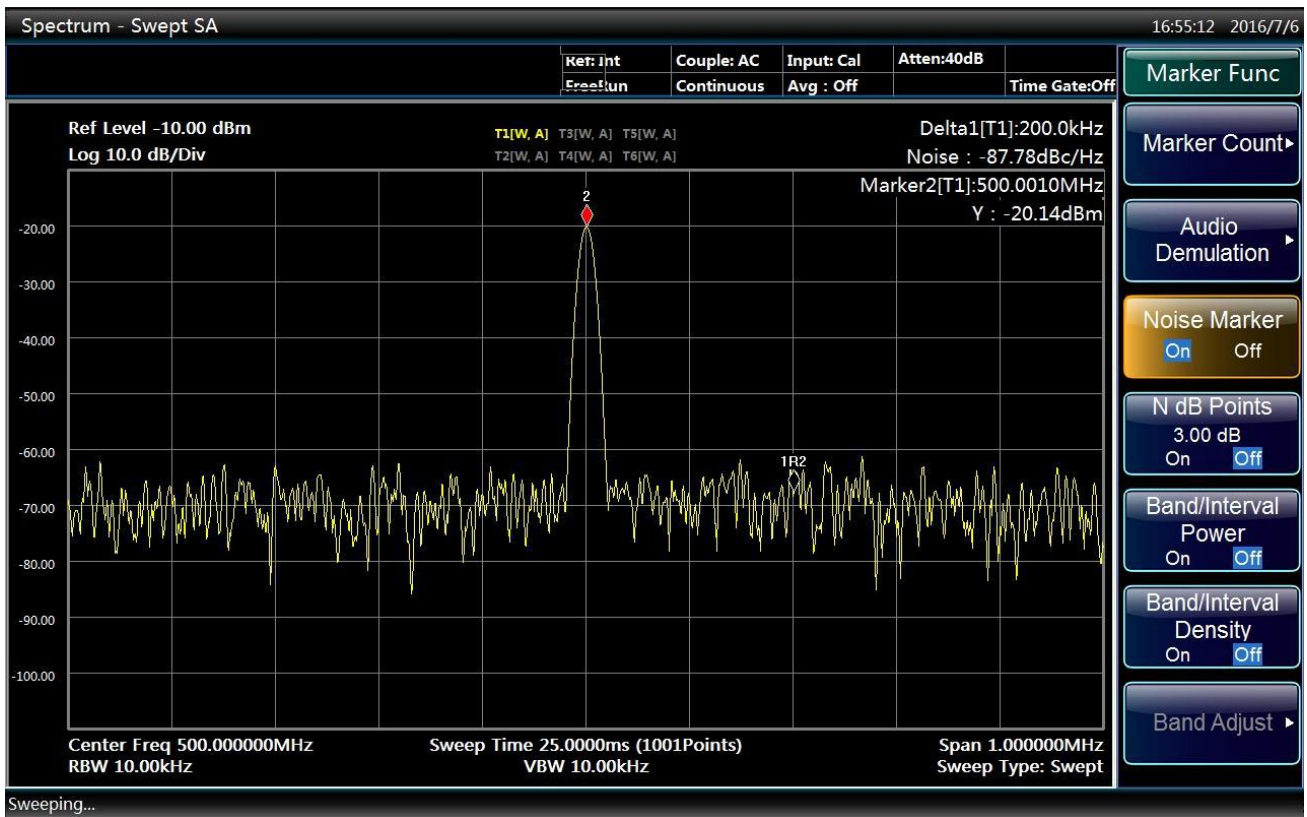

Fig. 4.31 Measure SNR
- Press [Marker Func], [Noise Marker ON **OFF**] to open noise marker. As shown in Fig. 4.31.